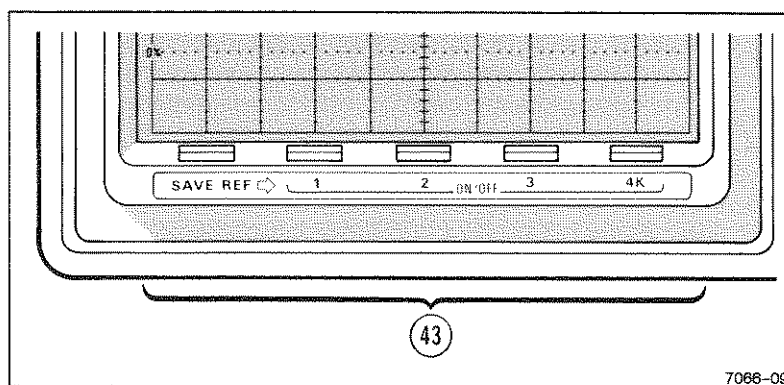

Figure 3-6. Save reference/menu items select buttons.
Refer to Figure 3-6 for location of item 43.